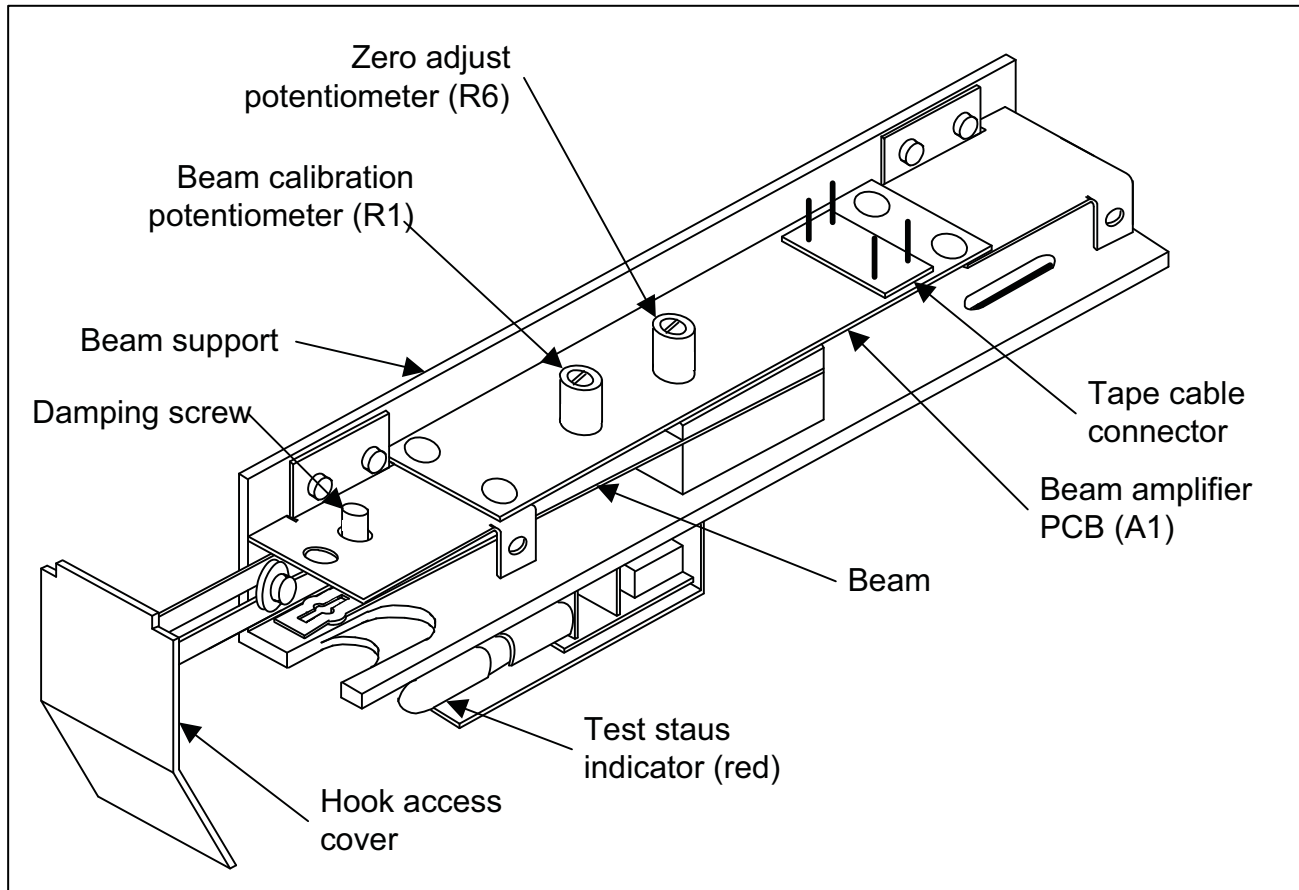

Figure 3-4. Beam Assembly Adjustments
- 2 Use the screwdriver end of the hook insertion tool and slowly turn the zero adjust potentiometer on the Beam Module, figure 3-4, clockwise until the minus sign in front of the PEAK FORCE reading lights. Then, turn the zero adjust counterclockwise until the minus sign just goes out.
- 2 Slowly turn the zero adjust potentiometer (R6) (figure 3-4) on the beam clockwise using the insertion tool screwdriver until the PEAK FORCE indicator minus sign just lights.